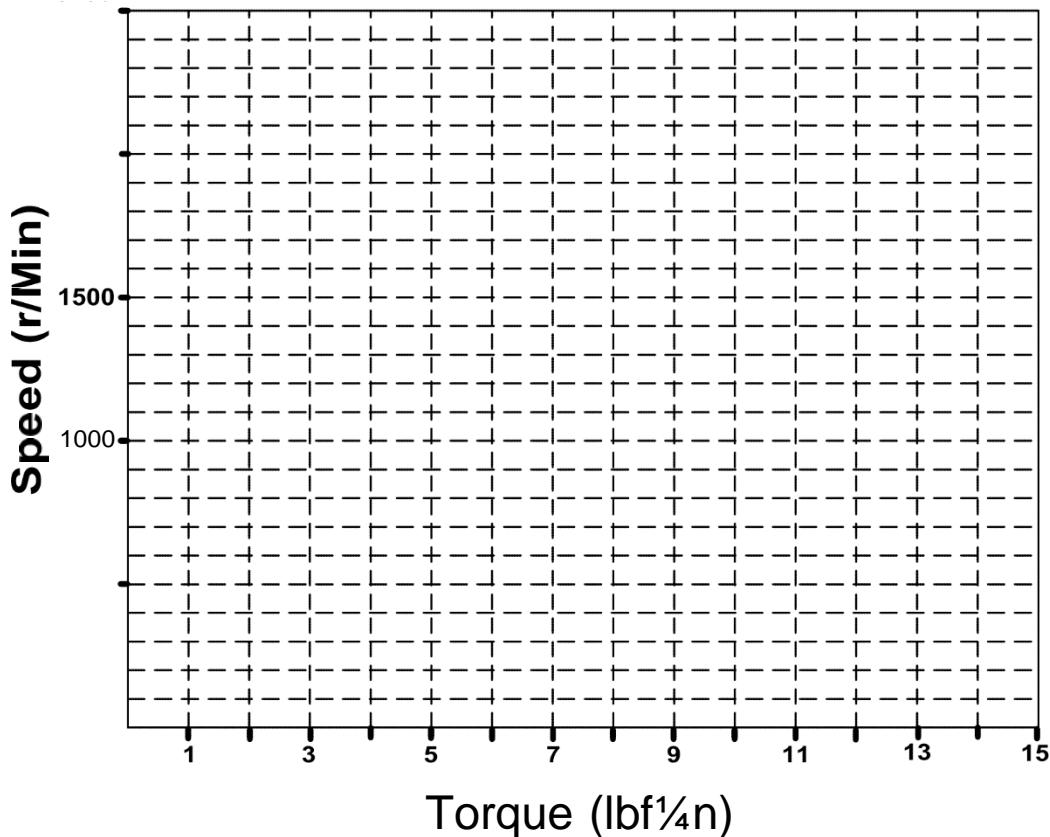

FIGURE 11.14
- Step 8: a) Plot the recorded motor speed values from Table 11-3 on the graph of Figure 11.14.